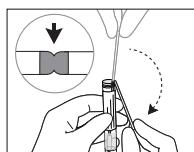

Fig. 2a
4. Bend the swab shaft at a 180 degrees angle to break it off at the breaking point holding the tube away from the face. If needed, gently rotate the swab shaft to complete the breakage and discard the upper part of the swab shaft (Fig. 2a e 2b). If the swab used does not have a breakpoint, cut off the excess part of the shaft.